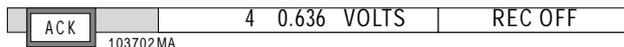

Figure 3-6 ACKnowledge Button
4. ACKnowledge Button - To the left of the Status Line is the position of the **ACK** button (Figure 3-6). This is the Alarm ACKnowledge and is only present when there is an alarm condition, at which time it blinks until you press it to acknowledge the alarm condition. Pressing the Acknowledge button will also reset any Output relays if this option is installed and programmed. Note that the **ACK** button will always be the top most button, always rising to the surface when covered by other items such as menus. You can thus acknowledge an alarm at any time, even while in the programming mode.